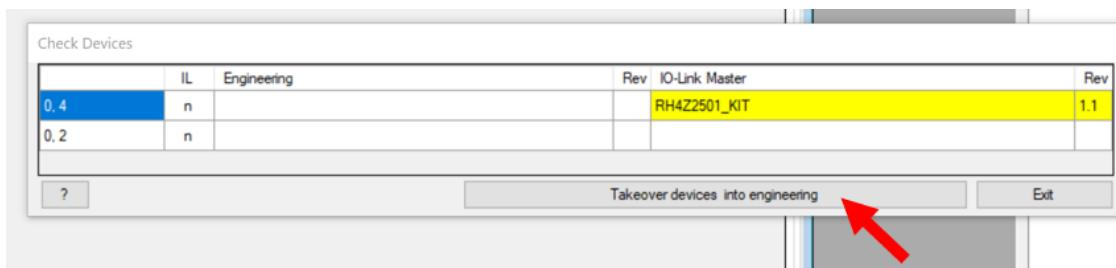
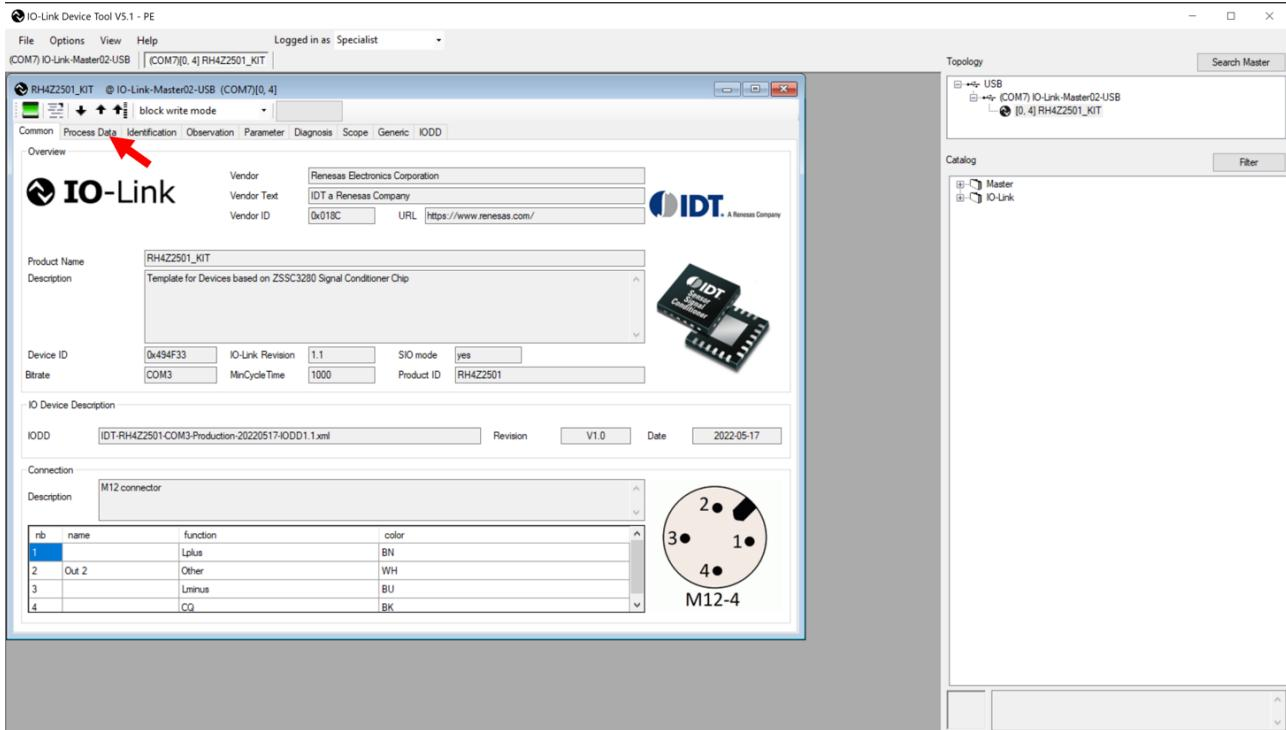

Figure 6. Takeover Devices
Figure 7. Opening Process Data Tab
- d. Click on 'Takeover devices into engineering', see Figure 6. Figure 7 will then appear.
- Open the 'Process Data' tab in the 'RH4Z2501_KIT' window, see Figure 7.